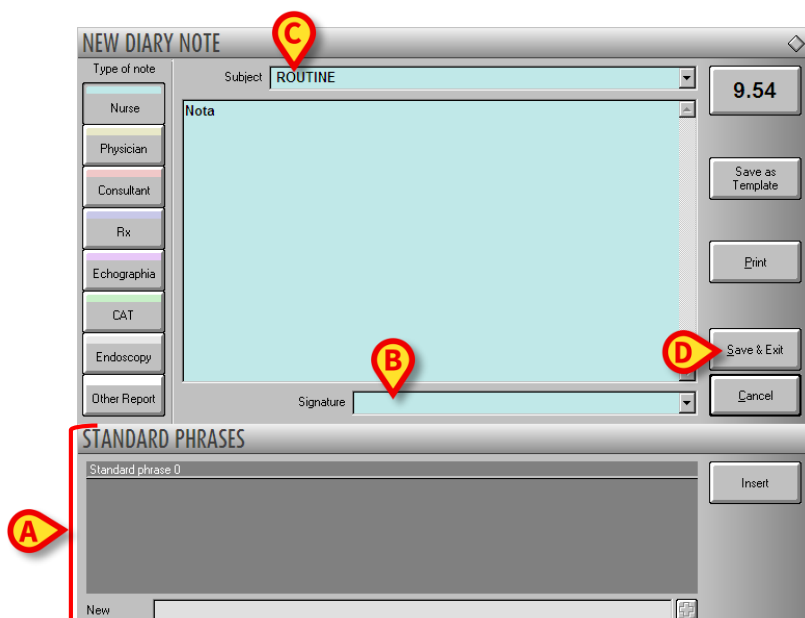
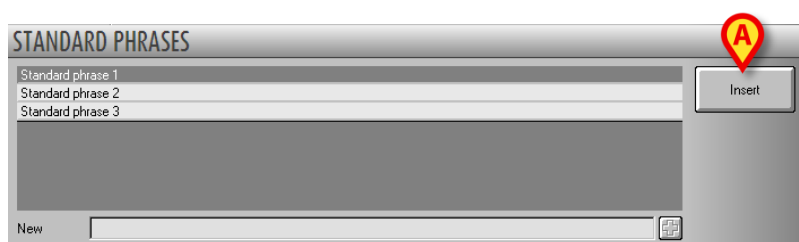

Fig 65
Fig 66
- After typing the diary entry, click the **Save and Exit** button (Fig 65 D).
The contents of the “New diary note” window change according to the selected note type). The configured “Standard phrases” can change (Fig 65 A - paragraph 7.7.1); the configured “Signatures” can change (Fig 65 B paragraph 7.7.2); the configured “Subjects” can change (Fig 65 C paragraph 7.7.3).
The “Standard phrases” are a list of pre-defined frequently used phrases that can be quickly inserted in the diary note (Fig 65 A, Fig 66).
- Click the **Insert** button (Fig 66 A).
- Click the **Save and Exit** button (Fig 65 D) to add the note to the clinical diary.